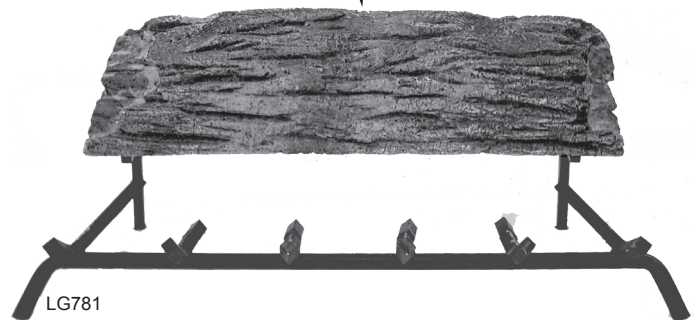

Figure 12 -
1. Center rear log #1 on grate bars and flush with rear of the grate. *Figure 12*